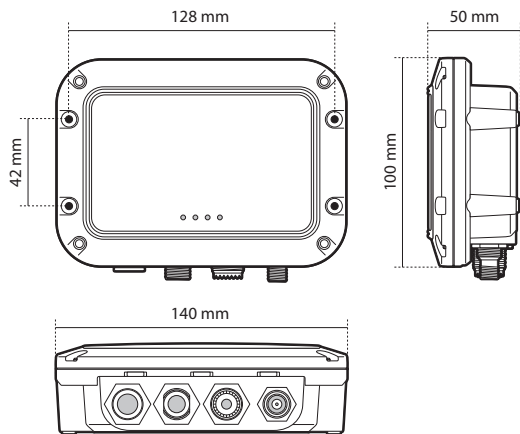

Figure 5 AIS transceiver dimensions
- There should be adequate space around the AIS transceiver for routing of cables. See **Figure 5** for details of the AIS transceiver dimensions.